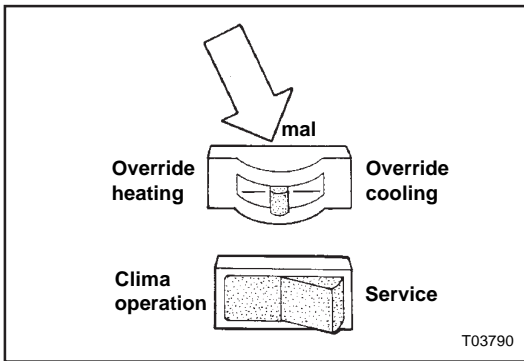

Figure 13 : Climate control override (in HVAC junction box)
- b. Switch override switch to "OVERRIDE HEATING" position (Figure 13).
10. Switch HVAC-override switch (see Figure 13) back to "NORMAL" position.